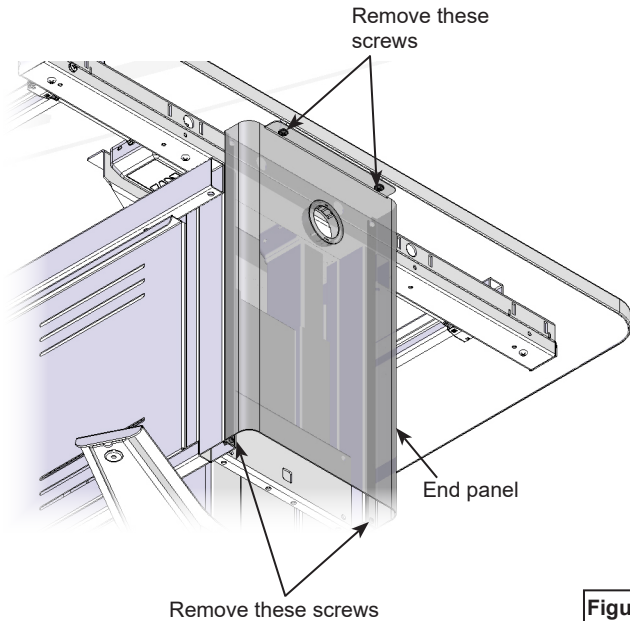

Figure 6.1
1. Remove the (4) screws shown. **Figure 6.1.**